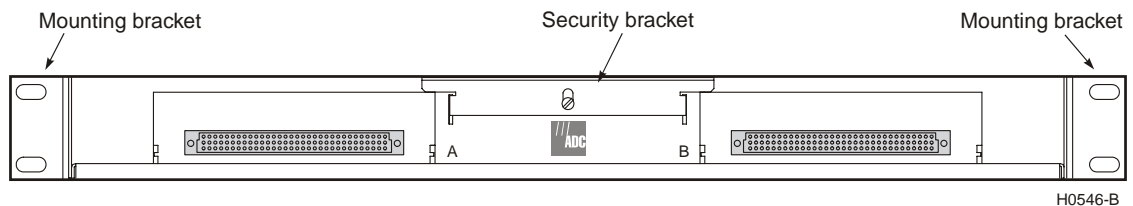

Figure 6. Shelf with Brackets Positioned for 19-inch Rack
Install the HRM-238 in a CO equipment bay rack. If the CO rack is 19 inches wide, attach the short side of the mounting bracket to the HRM-238 shelf and use the long side of the mounting bracket to attach to the CO rack. If the CO rack is 23 inches wide, reverse the mounting bracket. Attach the long side of the mounting bracket to the HRM-238 shelf and use the short side of the mounting bracket to attach to the CO rack (Figure 6).
- 2 Align the HRM-238 shelf mounting brackets with the vertical mounting holes on the CO rack (Figure 6).